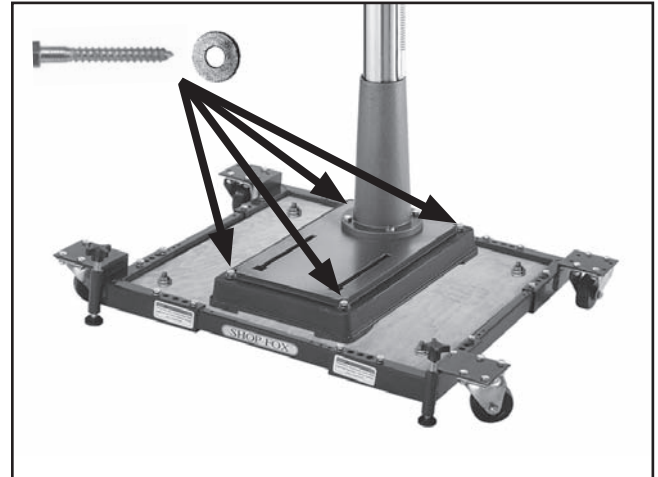

Figure 24. Drill press mounted on mobile base, using a base plate for support.
If you must use a mobile base, ALWAYS mount your drill press to a base plate inside of the mobile base, as shown in **Figure 24**.
9. Mount the drill press to the base plate with lag bolts and flat washers (**Figure 24**); or with through bolts, flat washers, and hex nuts.